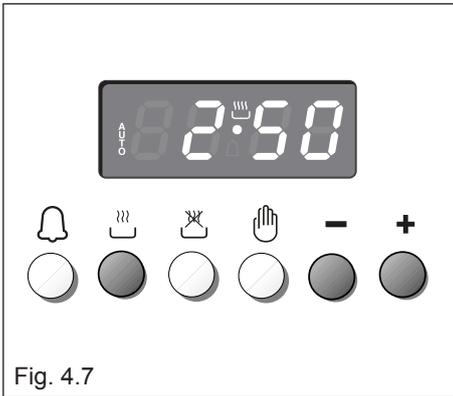

Fig. 4.7
1. Set the length of the cooking time by pushing the  button and the **+** button to advance, or **-** to go backwards if you have passed the desired time (fig. 4.7).